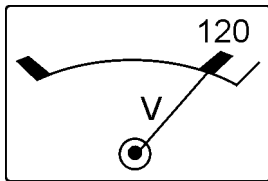

Figure 16. AC Voltmeter (120 VAC)
- Refer to the AC voltmeter (Figure 16) on the control box. The voltage indicated on the voltmeter should be 120 VAC with no load applied.